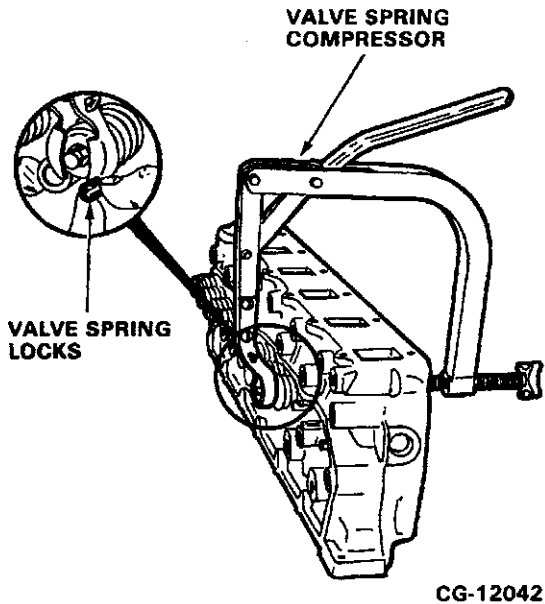

Figure 4.29. Remove Valve Spring Locks
3. Remove the valve spring locks (keepers). Refer to **Figure 4.29**.